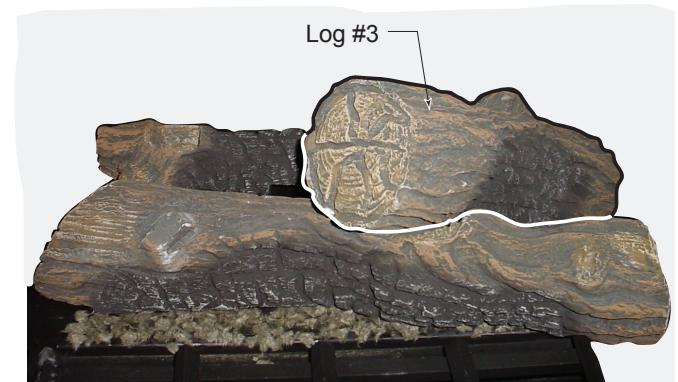

Figure 5.6 - Log #3 Placement
4. Place log #3 at an angle over log #2 toward the back by matching the rectangular notch on the bottom of this log with the rectangular protrusion on log #2. Set the notch located on the bottom of this log toward the back over the metal bracket located to the right side of the burner. Figure 5.6.